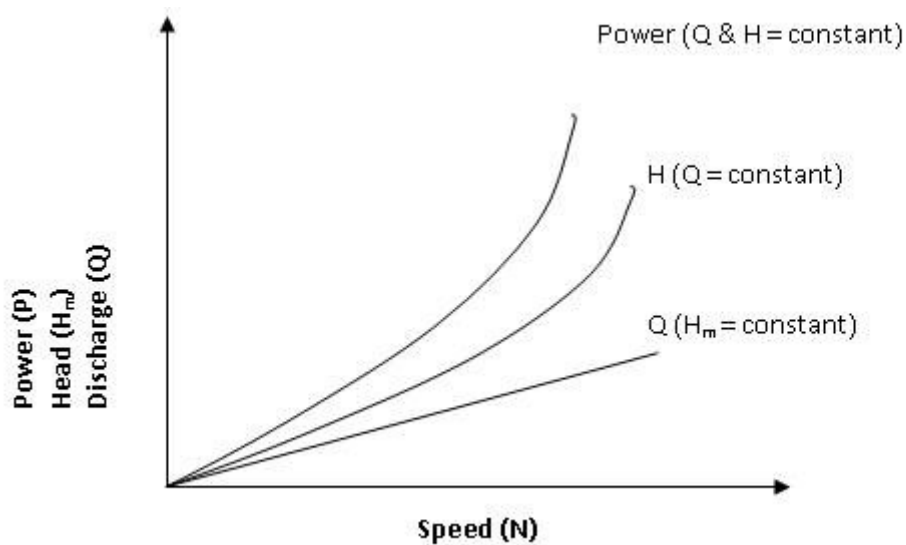
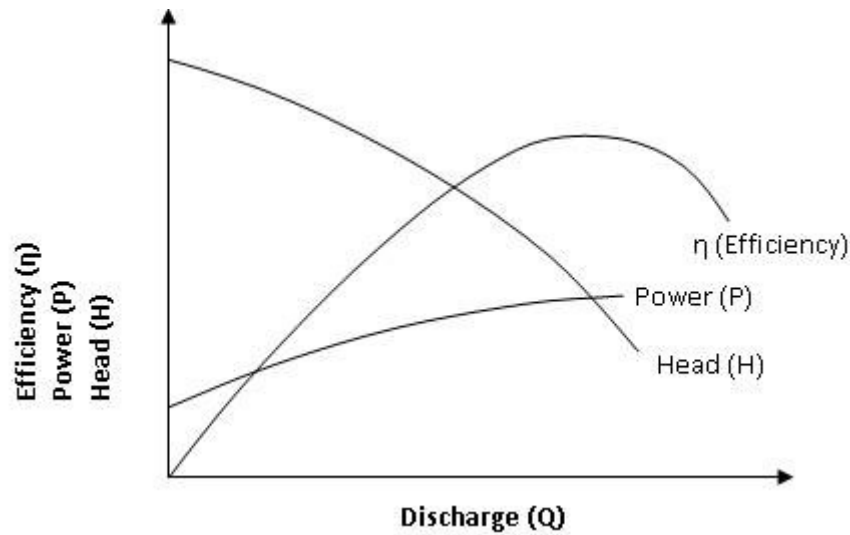

Fig. 31.11 Main characteristic curve
Fig. 31.12 Operating characteristic curves
The main characteristic curves of a centrifugal pump consists of variation of head (h_m), power (P) and discharge (Q) with respect to speed (Fig. 31.11) The operating characteristic curves is shown in fig. 31.12.